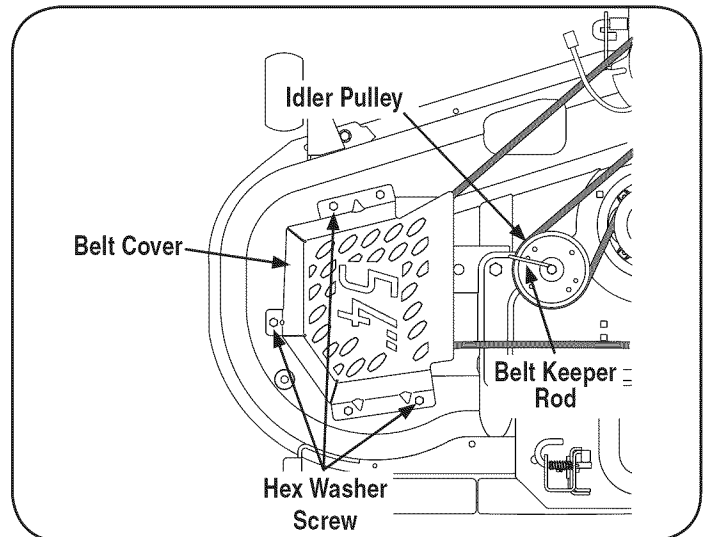

Figure 15
2. Remove the belt covers from the outer spindles by removing the hex washer screws that fasten them to the deck. See Figure 15.
3. Loosen, but do not remove the belt keeper rod on the deck idler pulley located near the back of the deck. See Figure 15.